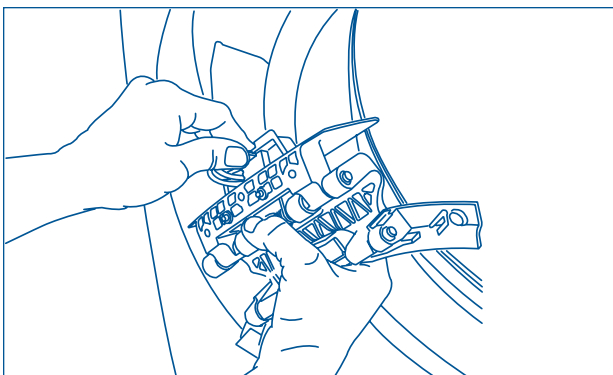

Figure 2-23.
4. Lift up on the tab and the release harness from the retainer, allowing the harness to lay outside the front panel. (See Figure 2-23)